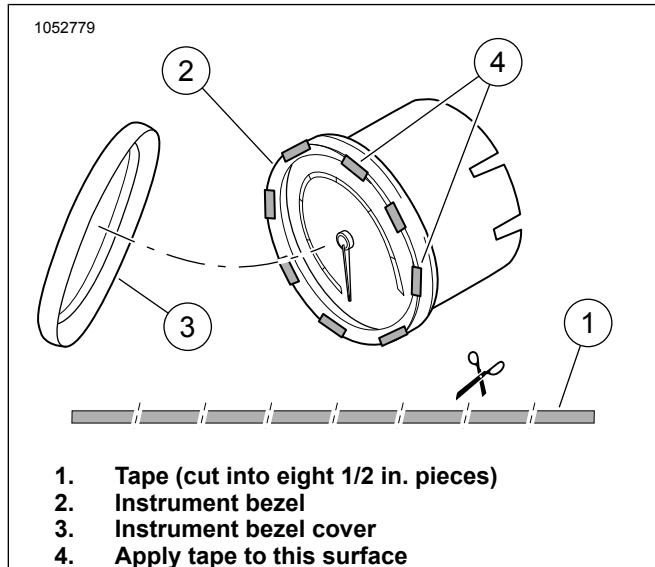

Figure 1. Chrome Instrument Bezel Installation
2. See Figure 1. Cut the tape (1) into eight 1/2 in. pieces.